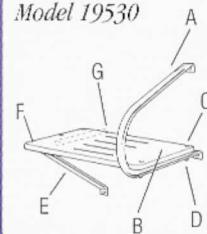

Figure 4
- 1b. After determining which side of the platform is most suitable for the handrail (A), mount it to the platform (B) using 2 bolts (C) 03.085 through holes in platform. Secure with 2 locknuts (D) 03.221 as illustrated.
2. Mount strut (E) 50.745 by inserting bolt (F) 03.075 through hole and secure with locknut (D) 03.221 as illustrated.
3. Mount strut (G) 50.746 by inserting 2 bolts (C) 03.085 through holes and secure with 1 locknut (D) 03.221.
4. Choose most suitable side of transom for mounting platform. Turn motor unit as far as possible to that side. Make a line on the transom indicating motor unit's full extension to that side. (Fig. 4.)